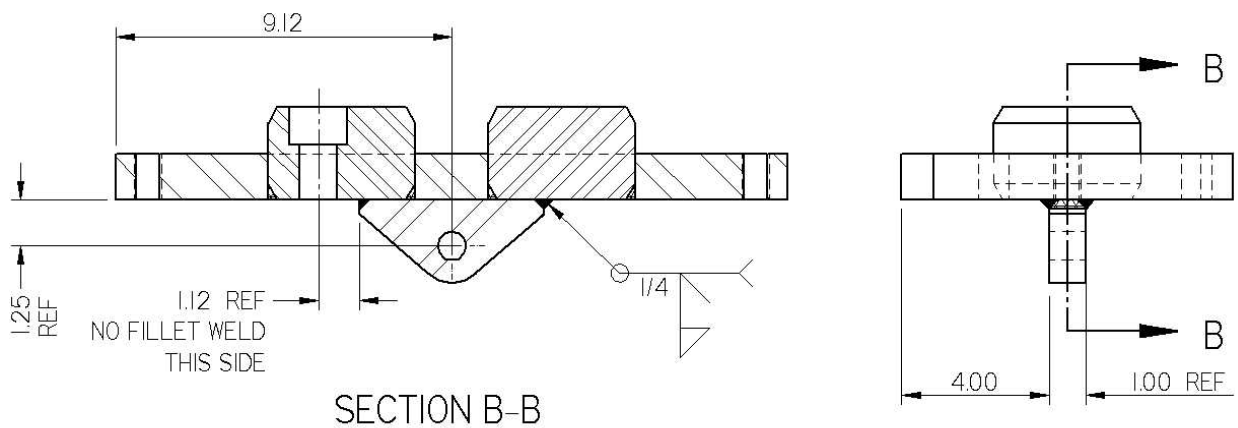

Figure 3: Welding of Lug to Cylinder Top Mount Plate
- e) After the cylinder top mount plate and the lug are prepped for welding, place the lug on the cylinder top mount plate as shown in figure 3 below and weld using Low Hydrogen E7018-3/32 or 1/8" welding rod. Note that the short lug side nearest to the hole should have the bevel weld only. Having a fillet weld on that short side may interfere with the nut once the stop rod is installed. Allow the cylinder top mount plate to cool slowly.